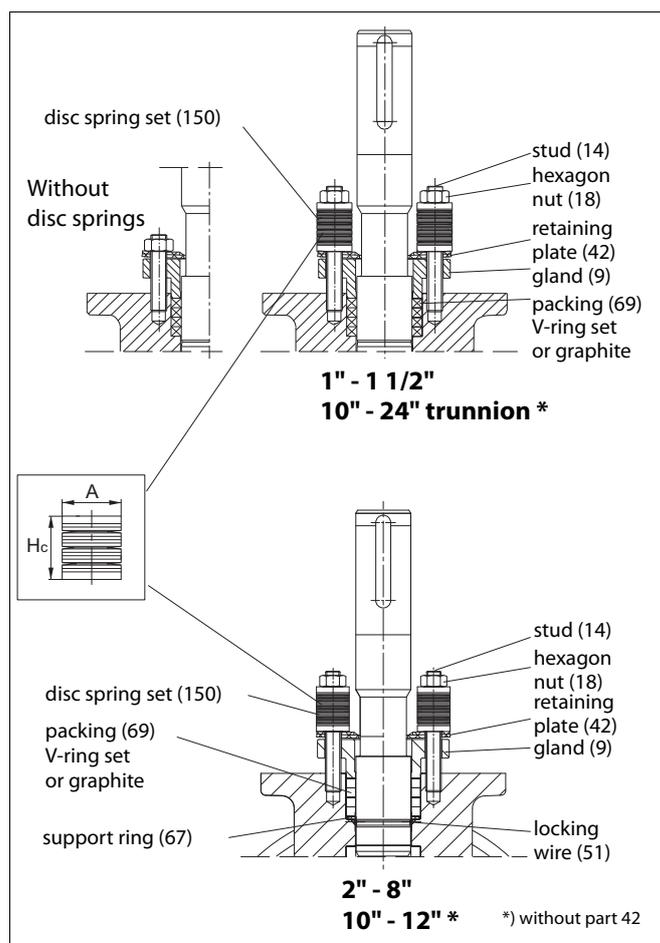

Fig. 15 Packing
- Place the new packing rings (69) around the stem (5) and in the counterbore, e.g. using the gland (9). See Figure 15 for correct position of the packing.